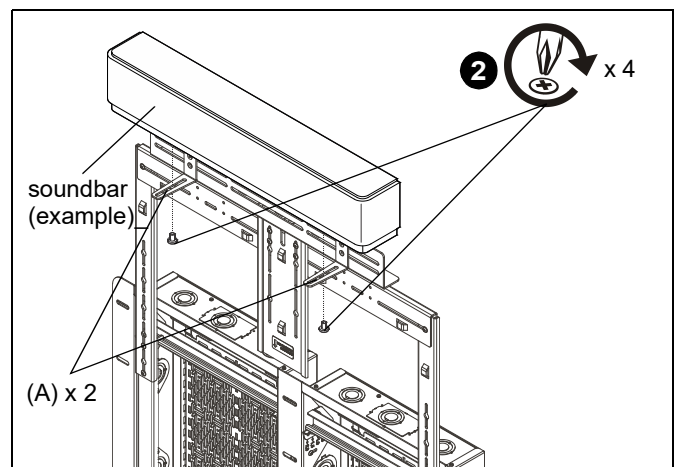

Figure 12
- (Using Adapters) Use hardware included with soundbar to attach soundbar to soundbar adapters (A). (See Figure 12)